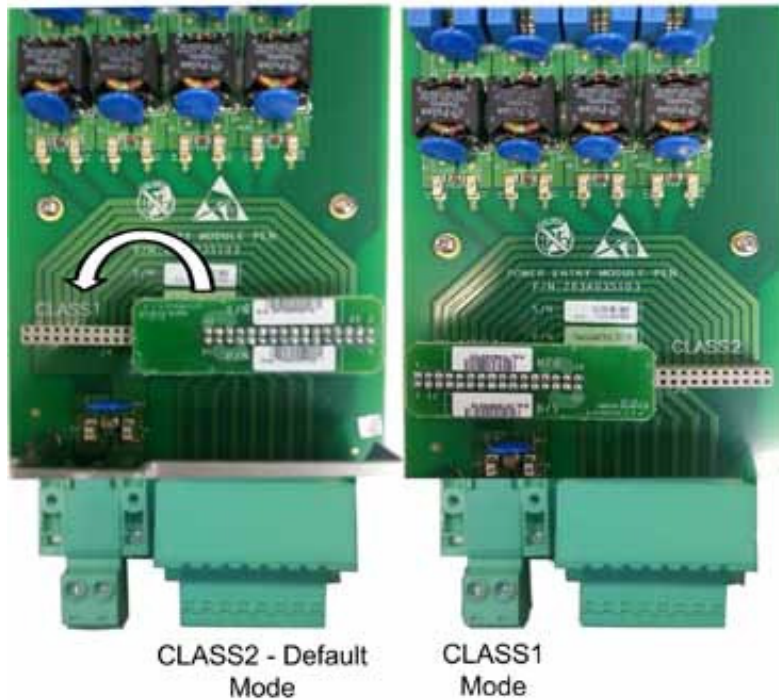

Figure 6-11. Setting CLASS1 Mode
2. Move DC bridge from CLASS2 position to CLASS1 to set DC input source type to 'CLASS1' connector. Refer to Figure 6-11.